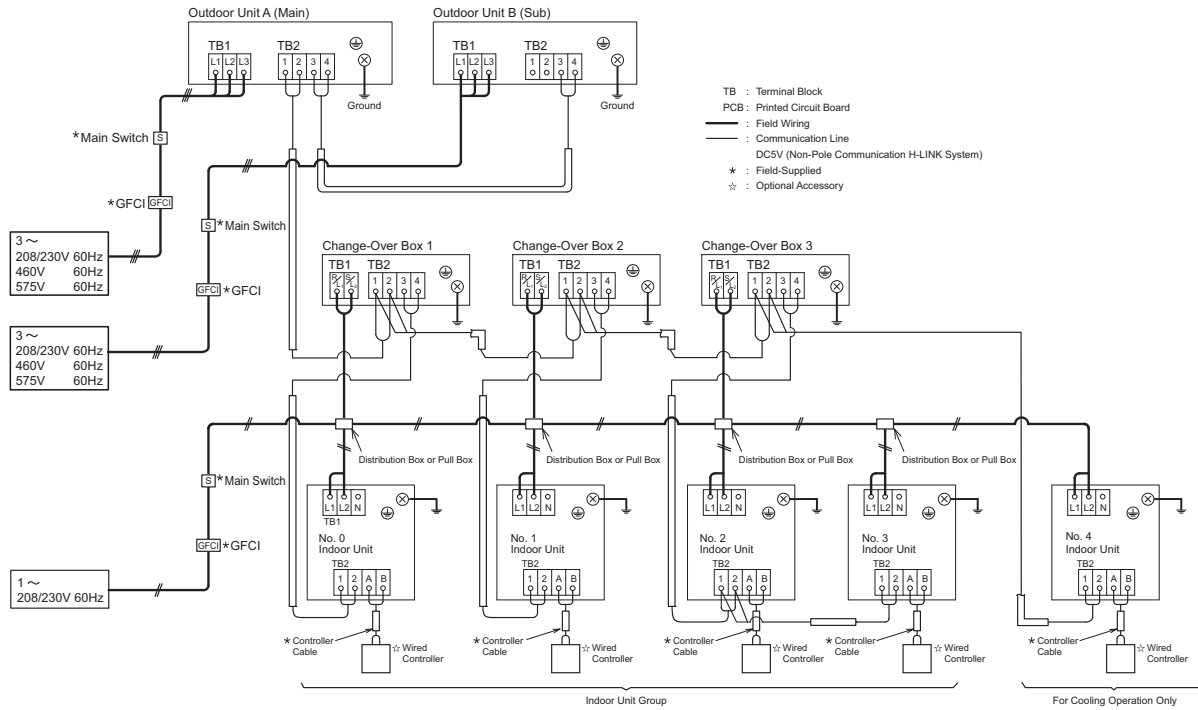

Figure 7.1 Layout for Electrical Wiring Connection (Heat Recovery System)
- (3) Connect the communication cable between indoor units, change-over boxes and outdoor units, as shown in Figure 7.1.
- (4) Connect the communication cables in the same refrigerant system unit. (If the refrigerant piping of indoor unit is connected to the outdoor unit, also connect the communication cables to the same indoor unit.) Connecting the refrigerant piping and communication cables to the different refrigerant systems may lead to malfunction.
- (5) Use communication cabling that is a minimum of AWG18 (0.82mm²), 2-Conductor, Stranded Copper. Shielded cable must be considered for applications and routing in areas of high EMI and other sources of potentially excessive electrical noise to reduce the potential for communication errors. When shielded cabling is applied, secure properly and terminate cable shield as required per Johnson Controls guidelines. Plenum and riser ratings for communication cables must be considered per application and local code requirements. (Do not use Tri-Core or anything beyond.)